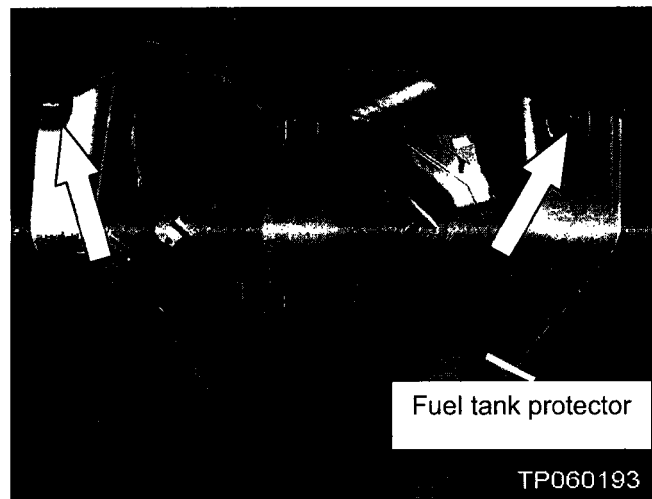

Figure 30
23. Remove the nuts shown in Figure 30.